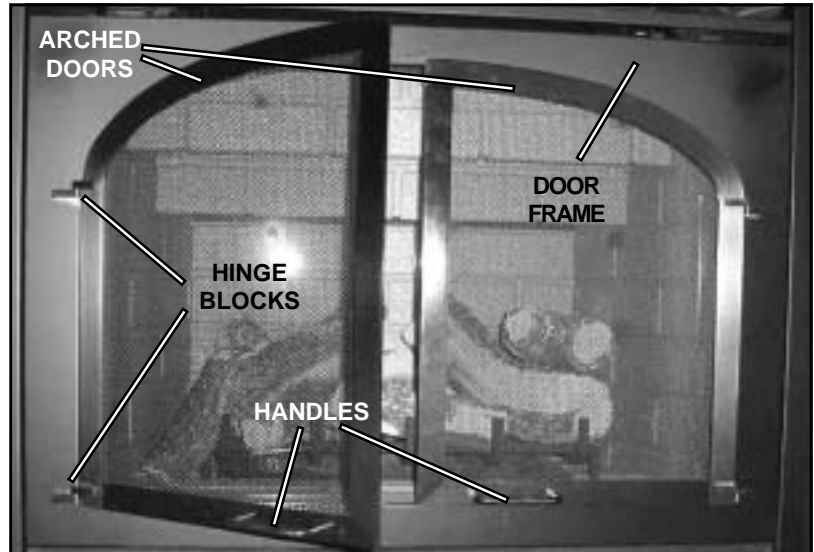

Figure 1
4. Hang arched cabinet style doors on door frame by setting top and bottom door hinge blocks over pins in frame hinge blocks (see Figure 1).